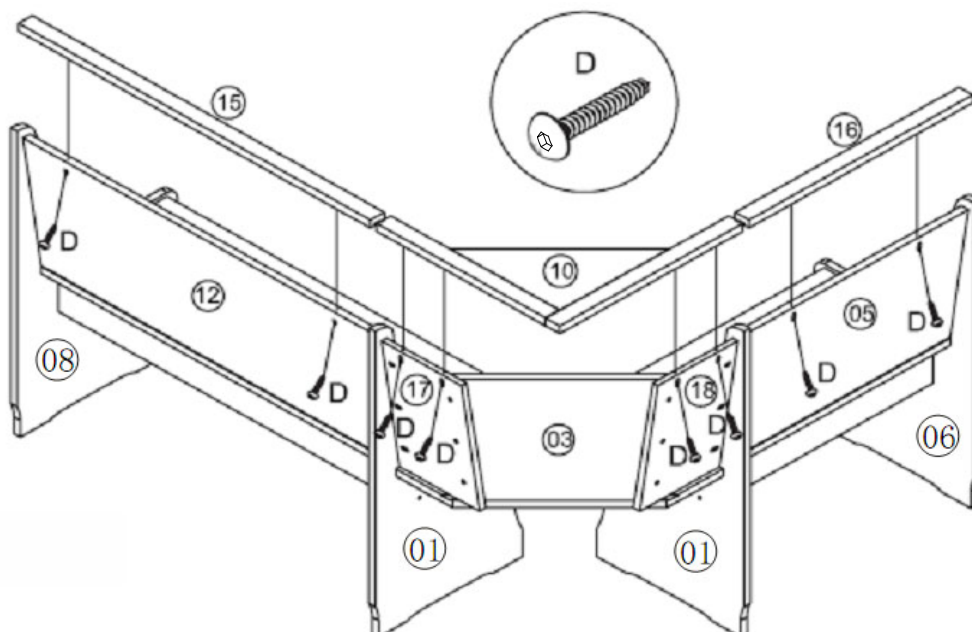

FIGURE 7
- a) Refer to Figure 7 - Fit Corner Top Panel (10) between Middle Legs (1) to sit on (17, 18 & 3), and use Screw (D) to fasten (10) to (17 & 18).
b) Fit Double Bench Backrest - Top Rail (15) between Middle and Right Legs (1 & 8) to sit on (12), and use Screw (D) to fasten (15) to (12).
c) Fit Single Bench Backrest - Top Rail (16) between Middle and Left Legs (1 & 6) to sit on (5) and use Screw (D) to fasten (16) to (5) .